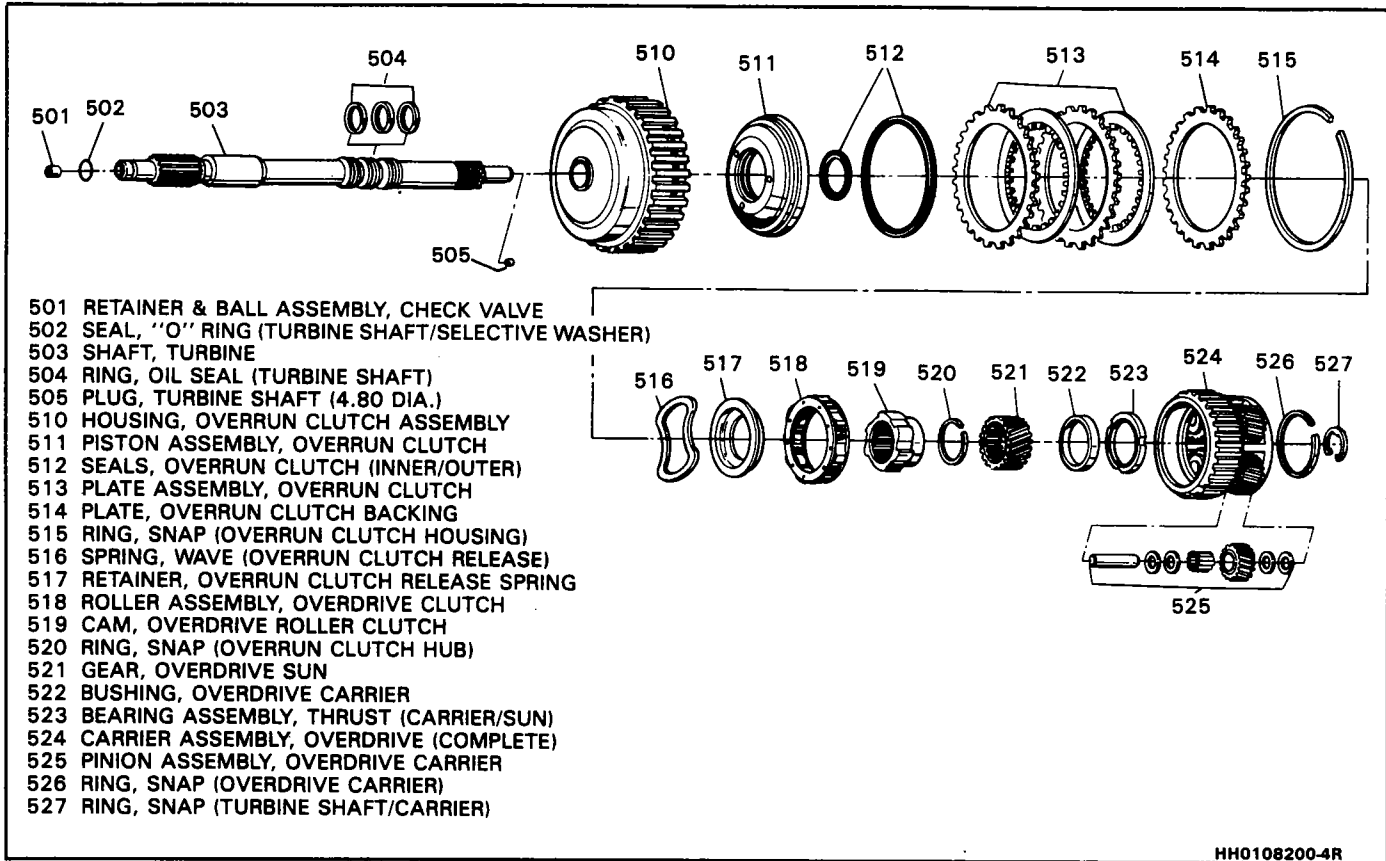

Figure 95 Turbine Shaft, Overrun Clutch and Overdrive Carrier Assemblies
**Assemble (Figure 95)**
1. Overdrive sun gear (521).
2. Align clutch plates (513).
3. Overdrive carrier assembly (524) into overrun clutch assembly (510).
4. Position overrun clutch assembly (510) and overdrive carrier (524) as shown.
5. Turbine shaft (503).
6. Snap ring (527).
- Clutch Plates (508)
- Backing Plate (507) For:
**Assemble (Figure 95 and 96)**
1. Fourth clutch plates (508):
- (2) steel plates